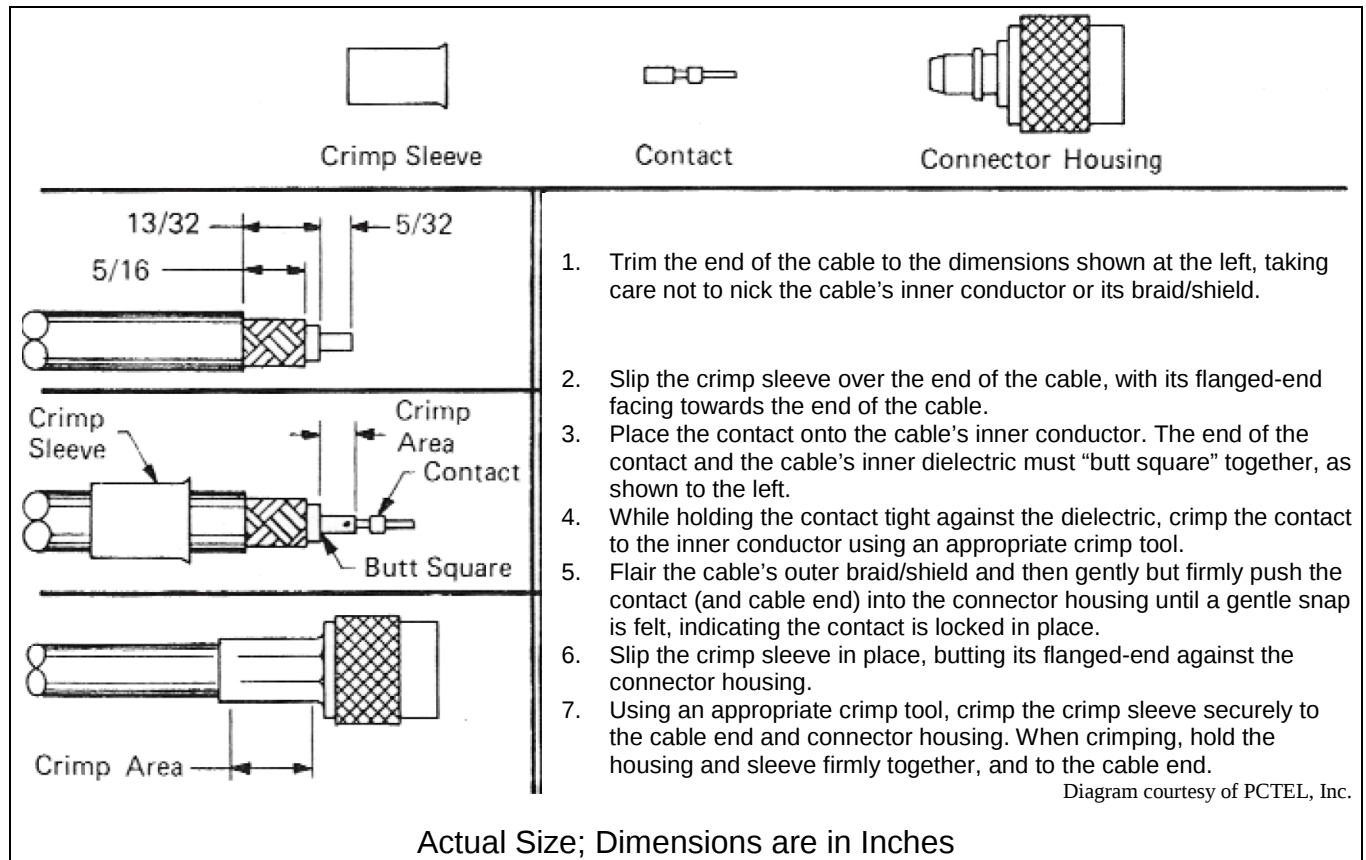

Figure 7-1: Crimping Instructions for TNC RF Connector
1. Using an appropriate crimp tool, crimp the supplied TNC RF connector to the end of the antenna cable. For crimping instructions, see Figure 7-1 or the instructions supplied with antenna.